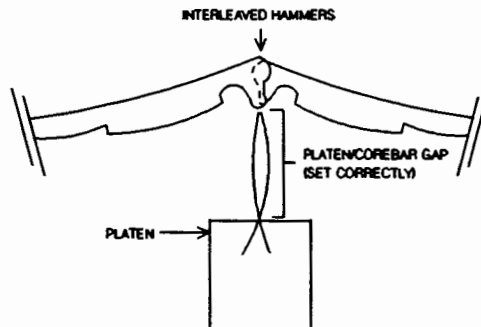

Figure 4-1. Platen/Corebar Gap
- a. Set the printer's ON/OFF switch to the OFF (0) position.
- c. On the outside edge of the Formatter PCA, install a jumper from test point COLD START to GND (TP1) (see Figure 4-1). The jumper may be grounded on the cardcage's metal frame instead of using TP1.
- d. Set the printer's ON/OFF switch to the ON (1) position.